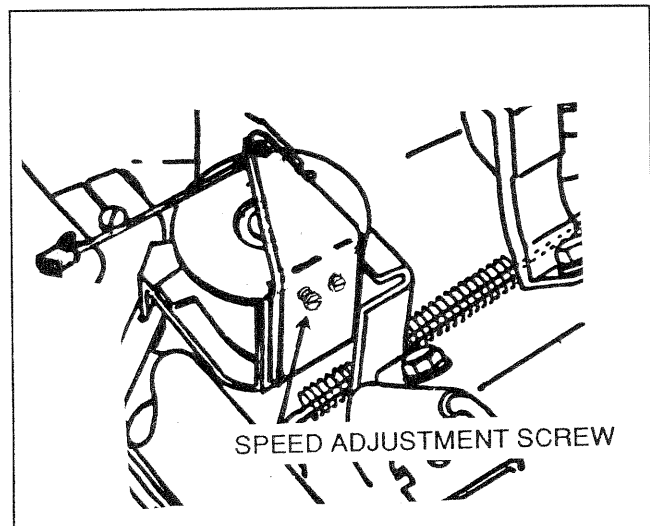

Figure 180. No-Load Speed Adjustment Screw
- If necessary, adjust the no-load speed adjustment screw (Figure 180) to obtain a frequency of 62.0-62.5 Hertz. Turn the screw clockwise (CW) to decrease frequency; counterclockwise (CCW) to increase frequency.
- Readjust the no-load speed adjustment screw (Figure 180) to obtain 62.0-62.5 Hertz frequency.
- Again readjust the no-load speed adjustment screw (Figure 180) to obtain a frequency of 62.0-62.5 Hertz.